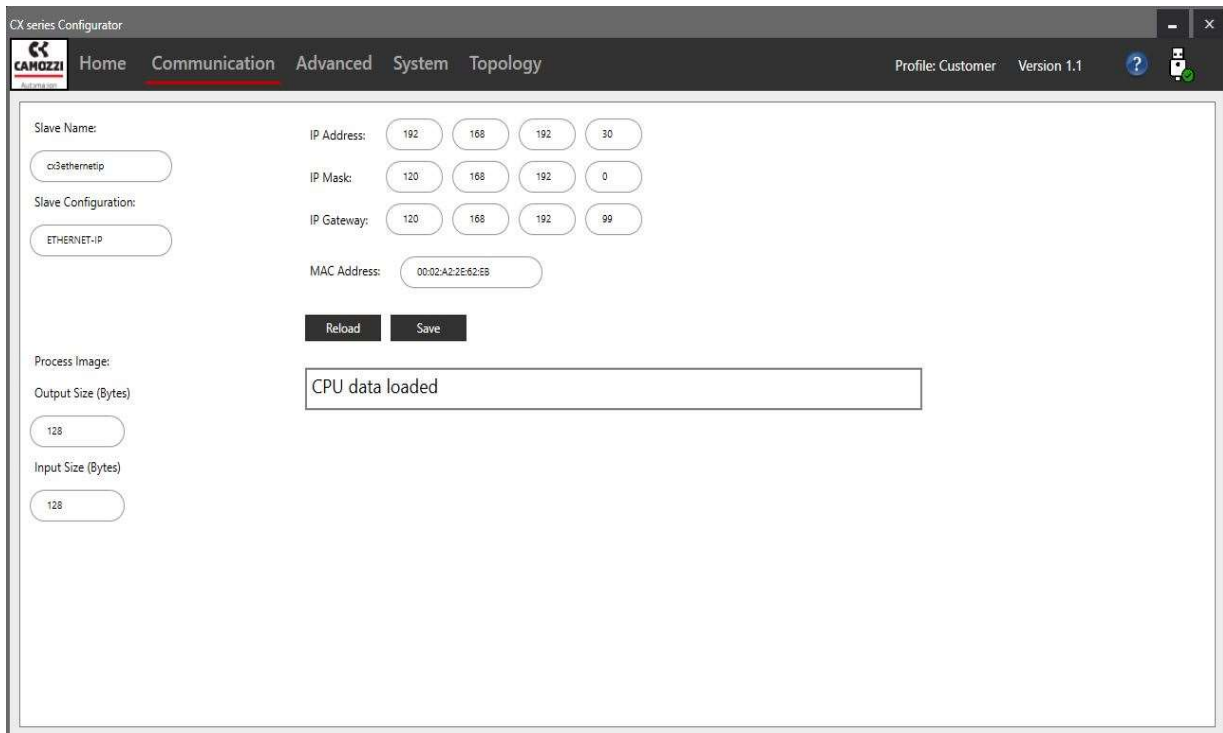

Figure 15: Communication menu with Ethernet-IP.
2. Open the Communication menu (figure 15).